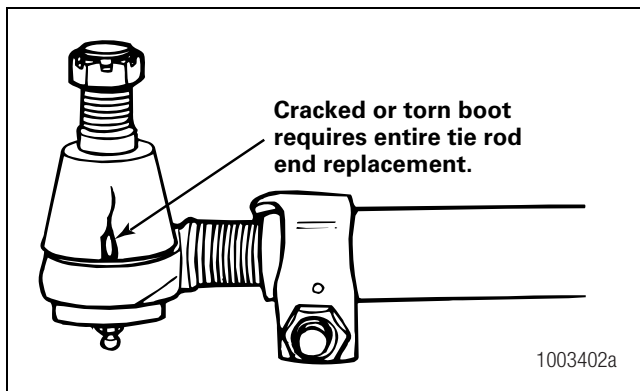

Figure 5.9
5. Check for cracking or tears in the boot. Also check the boot seals for damage. Replace the entire tie rod if the boot is damaged or missing. Figure 5.9.